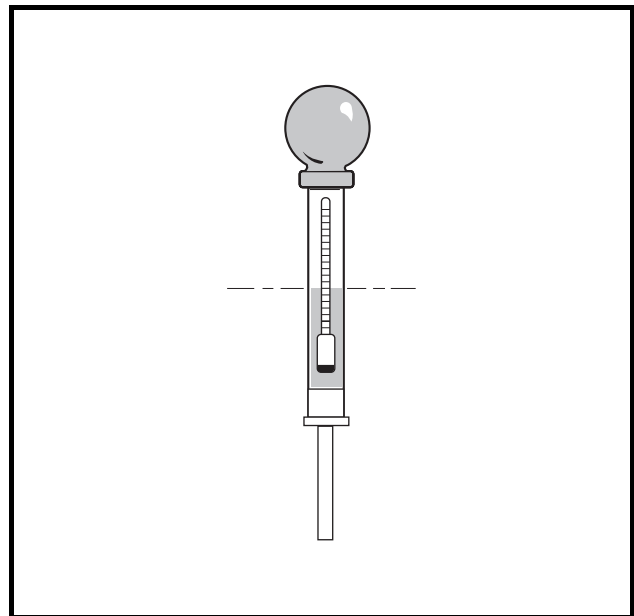

Figure 11-3 Hydrometer Test
A hydrometer (CCI P/N 1011478) measures the specific gravity. The greater the specific gravity, the greater the state of charge of the battery. A fully charged battery should read between 1.250 and 1.280 at 80 °F (27 °C). Never add acid to the battery to obtain a higher specific gravity (**Figure 11-3, Page 11-9**).
6. Hold the hydrometer vertically, ensuring that the float is not contacting the sides of the glass tube. Hold the hydrometer at eye level and read the scale at the level of electrolyte (**Figure 11-3, Page 11-9**).